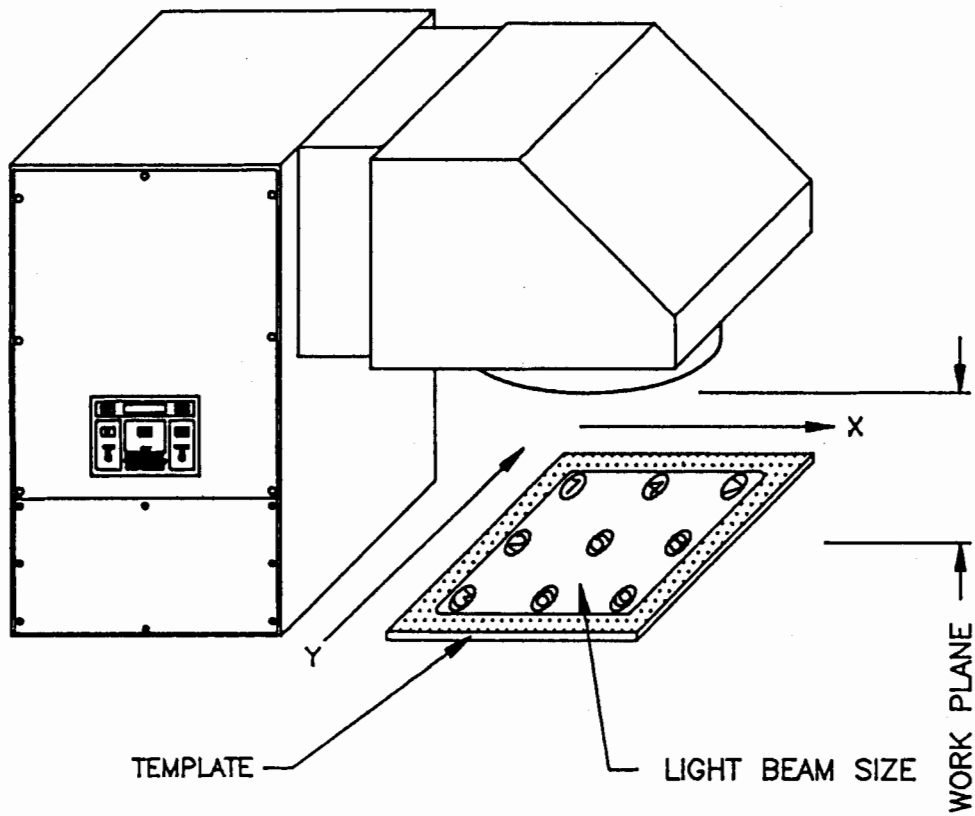

Fig.10 MEASURING THE BEAM UNIFORMITY
1. Place a template like the one pictured in Fig.10. under the center of the output lens, at the prescribed working distance. See the dimensional drawing to determine the recommended working distance for your system. The template should have nine evenly spaced measurement sights that fill the uniform portion of your solar simulator output beam